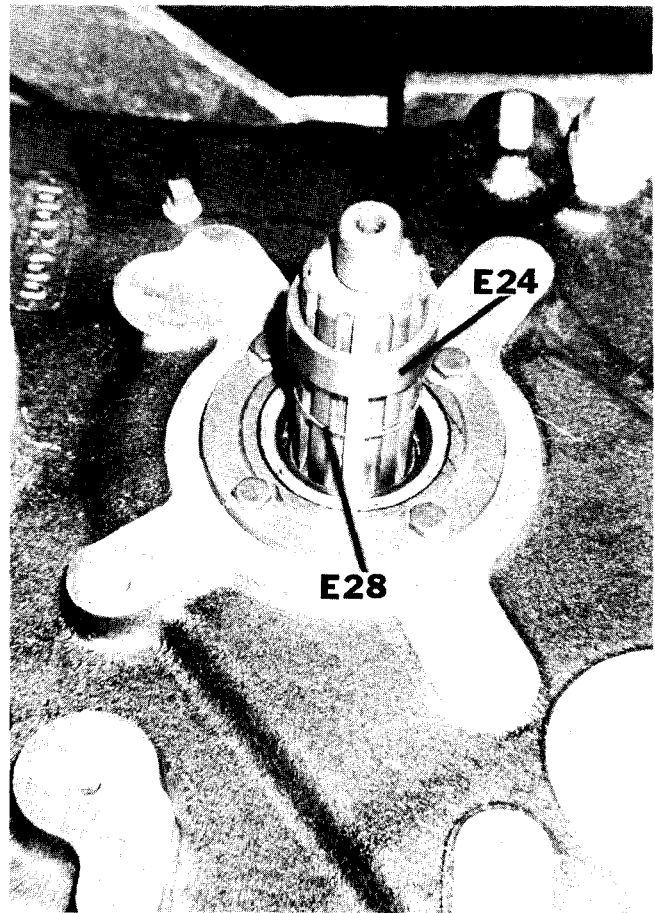

Figure 63
1. Install cover (E-7) and O ring (E-28), spacer (E-24)(tapered edge inward) on shaft (Figure 63).